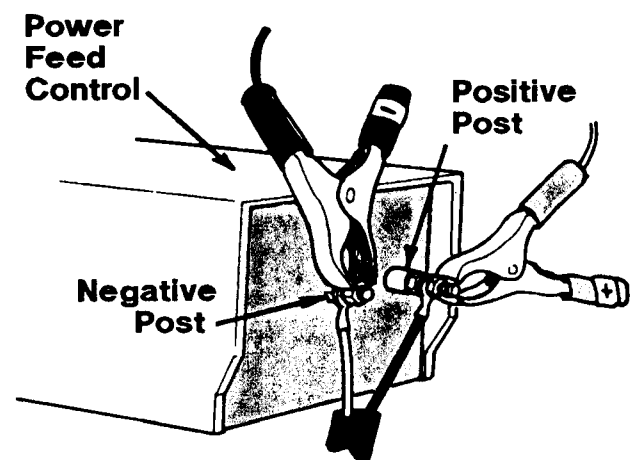

FIG 2-1
2. When using the LTADS in the field with the Wood-Mizer, use the provided socketed pigtail with battery clips. Attach the clips to the back of the power feed control as shown in **Figure 2-1**. The positive lead (red) should be clipped to the longer of the two power feed posts. Ground the negative clip (black) to the short power feed post.